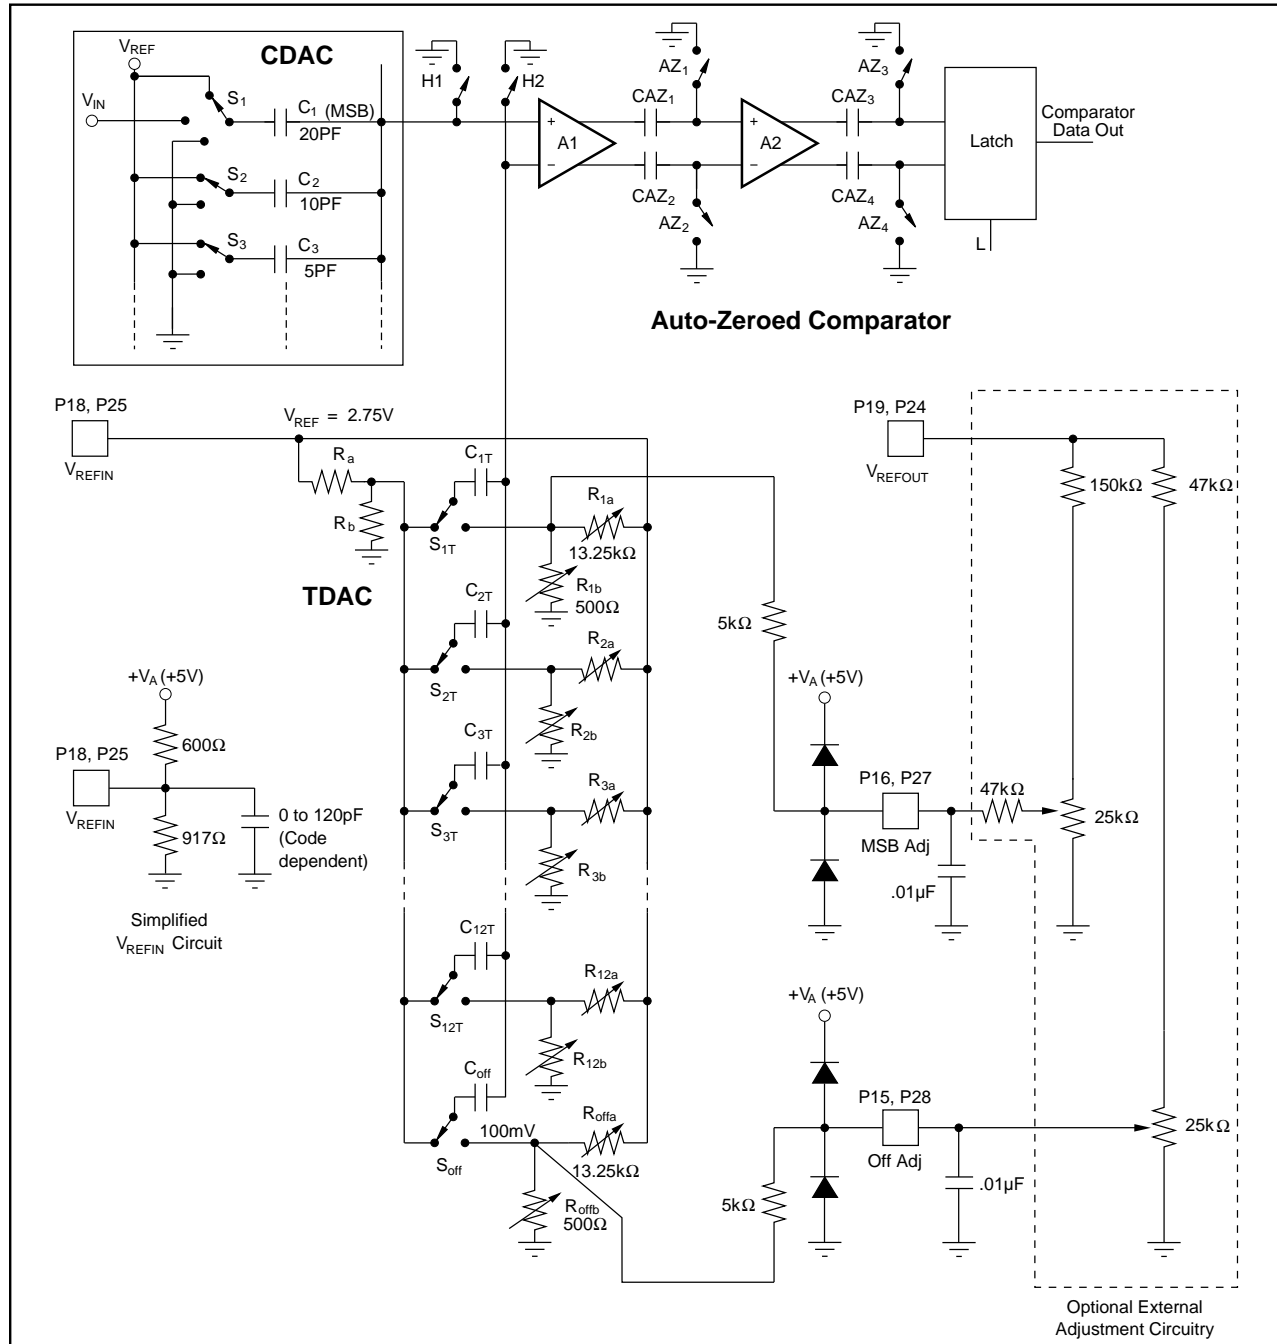
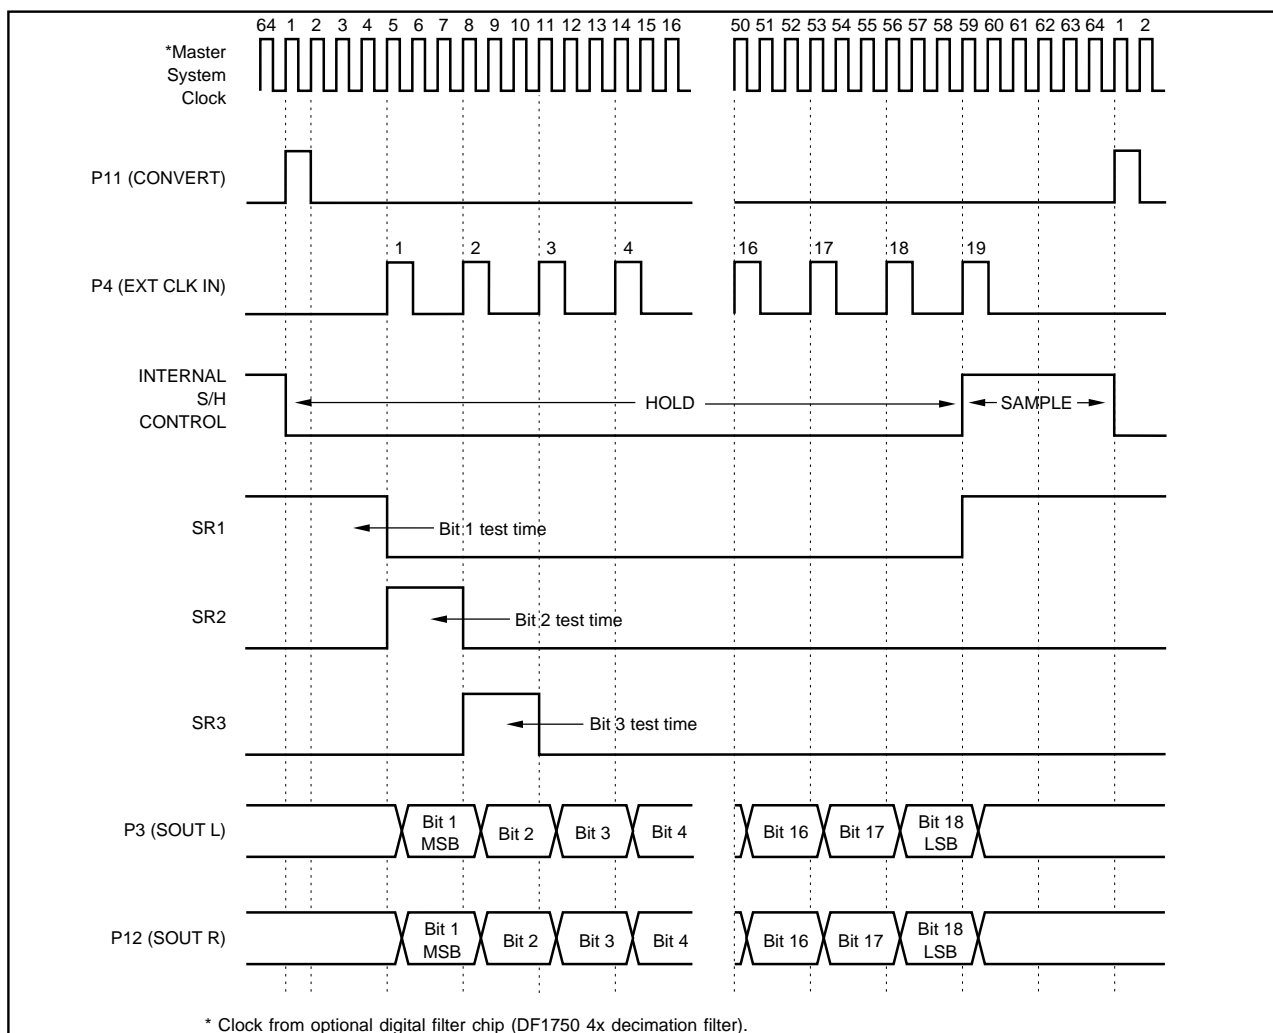

FIGURE 1. PCM1750 Simplified Circuit Diagram.
FIGURE 2. PCM1750 Input/Output Timing Diagram.
NOTES: (1) Binary Two's Complement coding. (2) The PCM1750 is tested and guaranteed at 5.2 $\mu s$ , however it will operate at 4.5 $\mu s$ . The dynamic performance is not guaranteed or tested at this conversion rate. (3) Ratio of  $Signal_{RMS} / (Distortion_{RMS} + Noise_{RMS})$ . (4) A/D converter sample frequency (4 x 48kHz; 4X oversampling per channel). (5) A/D converter input frequency (signal level). (6) Referred to input signal level. (7) Ratio of  $(Distortion_{RMS} + Noise_{RMS}) / Signal_{RMS}$ . (8) Externally adjustable to zero error. (9) Differential non-linearity error at bipolar major carry input code. Externally adjustable to zero error. (10) Full scale range (5.50V). (11) Refer to equivalent circuit in Figure 1. (12) Worst case operating condition. Refer to typical performance curves.
After each conversion, the dual ADC returns to the SAMPLE mode in order to track the input signals. The switches shown in the simplified circuit diagram of Figure 1 will then be in the following states: S1 connects  $V_{IN}$  to C1 ; S2 to S18 connect C2 to C18 to  $V_{REF}$ ; H1 and H2 connect the top plates of the capacitor arrays to analog common; and the latching comparator is switched into its auto-zero mode by closing AZ1 to AZ4. Notice that C1 serves two purposes: it samples and stores the input signal  $V_{IN}$  and it is the MSB of the CDAC. Storing  $V_{REF}$  on C2 to C18 creates a bipolar offset, enabling  $V_{IN}$  to cover a span from  $-V_{REF}$  to  $+V_{REF}$ .
occurs during the SAMPLE period (see the timing diagram shown in Figure 2). These errors are stored on the AC coupling capacitors (CAZ1 to CAZ4, shown in Figure 1) between the gain stages. During the SAMPLE period the inputs to gain stages A1 and A2 and the latch are grounded by switches H1, H2, and AZ1 to AZ4. Capacitors CAZ1 and CAZ2 track the amplified offset voltage of gain stage A1 and capacitors CAZ3 and CAZ4 do the same for A2. At the beginning of a conversion cycle, the autozeroing switches open and the instantaneous amplified value of both the DC offset voltage and the low-frequency flicker noise is stored on the coupling capacitors to produce zero comparator offset during a conversion cycle.
The timing diagram in Figure 2 illustrates the successive approximation routine of the PCM1750. Control signals CONVERT and CLK are derived from a master system clock which comes from a  $256f_s$  ( $256 \times$  the base sampling frequency of 48kHz) clock used by the optional digital filter. There are 64 clocks shown in the timing diagram because the PCM1750 is shown operating at 4 times the standard 48kHz sample rate (192kHz).
analog common (see Figure 1). This terminates the comparator auto-zero cycle and simultaneously switches (co-phase sampling) both converters from tracking their respective input signals into the HOLD mode, thus capturing the instantaneous value of  $V_{IN}$  (with a small delay specified as the aperture time).
For example, the testing of bit-2 proceeds in the following manner. The positive pulse from the second shift register element SR2, (see Figure 2 and 4) is applied to the bit-2 data latch and NOR gate. The NOR gate in turn drives S2 and switches bit-2 at the beginning of the bit-2 test interval. Note that the bit interval must be long enough to allow both the comparator input to settle and the comparator to respond. On
Notice from the timing diagram in Figure 2 that the successive approximation algorithm operates synchronously with an external clock to minimize digitally-coupled switching noise from corrupting either the sample-to-hold operation or the critical comparator bit decisions. The two serial output data streams are derived synchronously from the respective latched comparator outputs and are available after a delay of one CLKIN cycle as illustrated in Figure 2. The serial output driver cells are TTL and CMOS compatible.
Operation of the TDAC (trim DAC), which is laser trimmed at the wafer level, is described using bit-1 as an example. Switch S1T (see Figure 1) operates between two voltage levels—a reference level set by voltage divider Ra, Rb and a laser trimmable level set by R1a, R1b. The differences of these two levels is coupled by capacitor C1T to the minus input of the comparator to generate a correction voltage for